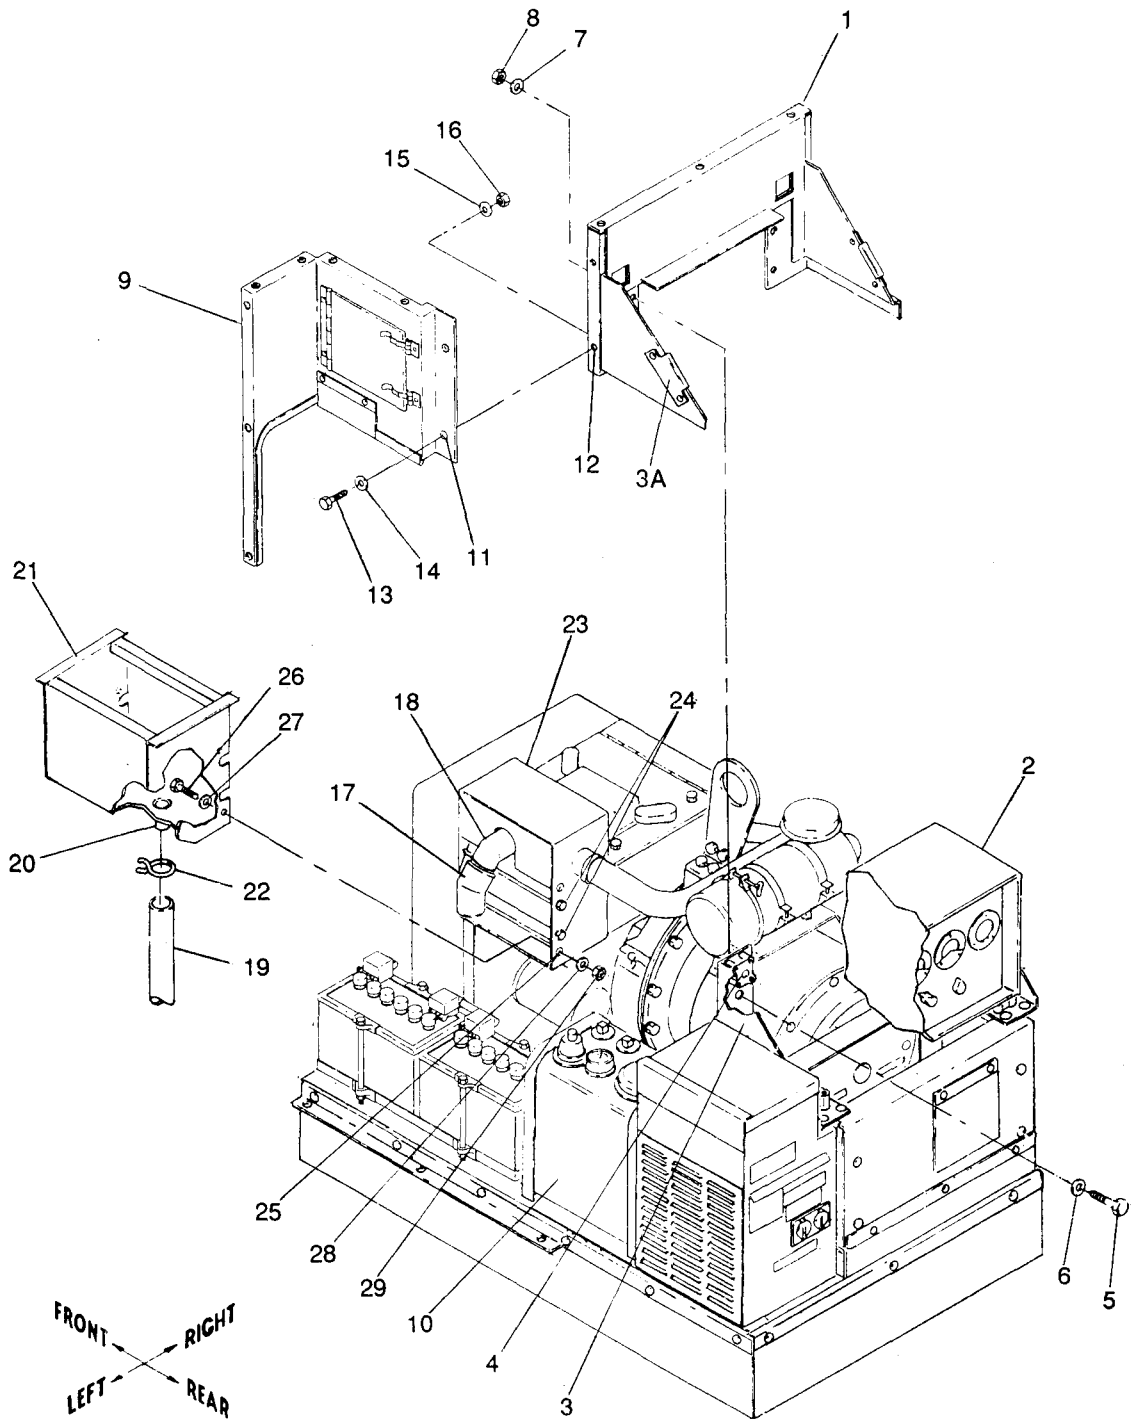

Figure 10-3. Installation of Rear and Side Closure and Exhaust Plenum Assemblies
(2) Refer to figure 10-3 and locate rear closure assembly (1) behind mounting brackets (3). Seat clips (3A) of rear closure assembly (1) over mounting brackets (3), so that rear closure assembly (1) is positioned over vibration mount hardware. When positioned correctly, the rear closure assembly (1) is 1/4 inch higher than top of control cubicle (2). Using rear closure assembly (1) as template, mark and drill four 5/16 inch holes in mounting brackets (3).
(3) Cut a 23 in. length and a 14 in. length of adhesive backed teflon tape (listed in Table 10-1, item 5). Apply adhesive backed teflon tape to a clean top edge (edge with three holes) and right edge (edge with two holes which will contact right panel assembly) of rear closure assembly (1). Use hand pressure to remove air bubbles. Clear tape from holes.
(4) Install rear closure assembly (1) to control cubicle support (3) with four screws (5), eight washers (6 and 7), and four locknuts (8) (as listed in Table 10-1, item 5).
(5) Torque screws (5) to 16 ±2 ft-lbs dry.
(6) Refer to Operator and Organizational Maintenance Manual, paragraph 3-18, and replace air cleaner assembly removed in step e.(1).
(2) Refer to figure 10-3 and locate side closure assembly (9) over fuel tank (10). Align side closure assembly mounting holes (11) with rear closure assembly mounting holes (12).
(3) Install side closure assembly (9) to rear closure assembly (1) with two screws (13), four washers (14 and 15) and two locknuts (16) (as listed in Table 10-1, item 6)
(4) Torque screws (13) to 16 \pm 2 ft-lbs dry.
(1) Refer to figure 10-3 and install exhaust elbow (17) (as listed in Table 10-1, item 7) to generator exhaust (18). Point elbow opening downward (exhaust down).
(2) Install hose (19) over sleeve (20) at bottom of exhaust plenum (21). Install clamp (22) over hose (19) and sleeve (20).
(3) Install exhaust plenum assembly (21) over exhaust shutter assembly (23) until rear upper channel of plenum is flush with exhaust shutter assembly (23). Screws (24) in exhaust shutter assembly (23) fit into plenum slots. (There is a 1-7/8" overlap.) Using exhaust plenum assembly (21) as template, mark mounting holes (25) and drill four 5/16 inch holes in exhaust shutter assembly (23).
(4) Install exhaust plenum assembly (21) to exhaust shutter assembly (23) with four screws (26), eight washers (27 and 28) and four locknuts (29) (listed in table 10-1, item 7.)
(5) Torque screws (26) to 16 \pm 2 ft-lbs dry.
(6) Route drain hose (19) between batteries and engine block.